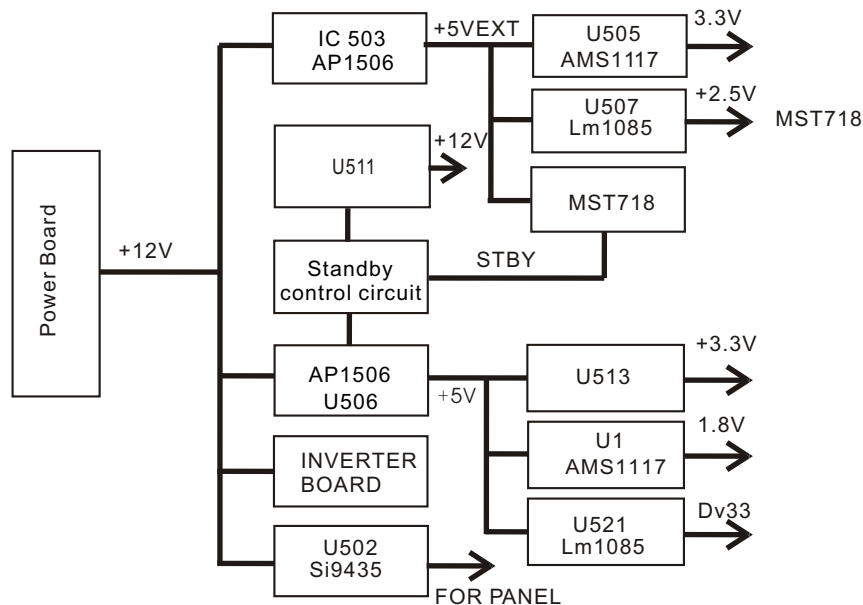

Figure 3.2.5.1 Power circuit block diagram
(1) Power circuit supplies stable and pure power for each unit circuit to ensure normal working of the player. Power circuit block diagram is shown in the figure 3.2.5.1: